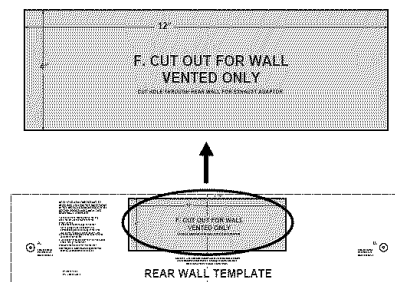

Figure 28
1. Using the Wall-template. This template will give the location and size of the box cutout for the rear wall duct as described in step 5 item 1 (page 15)
2. Using a pencil, put dots through slots "F" and "G", and through holes "H" and "I". Remove the mounting plate and draw lines extending through the points. This will give the location and size of the box cutout for the rear wall duct. See **Figure 28**.